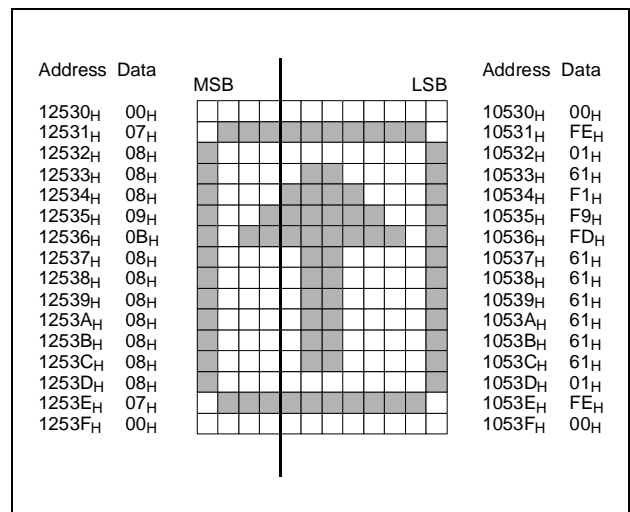

Figure 17-12 Example for a character (53H)
5. A character's address and dot position in font ROM is described in Figure 17-12 .